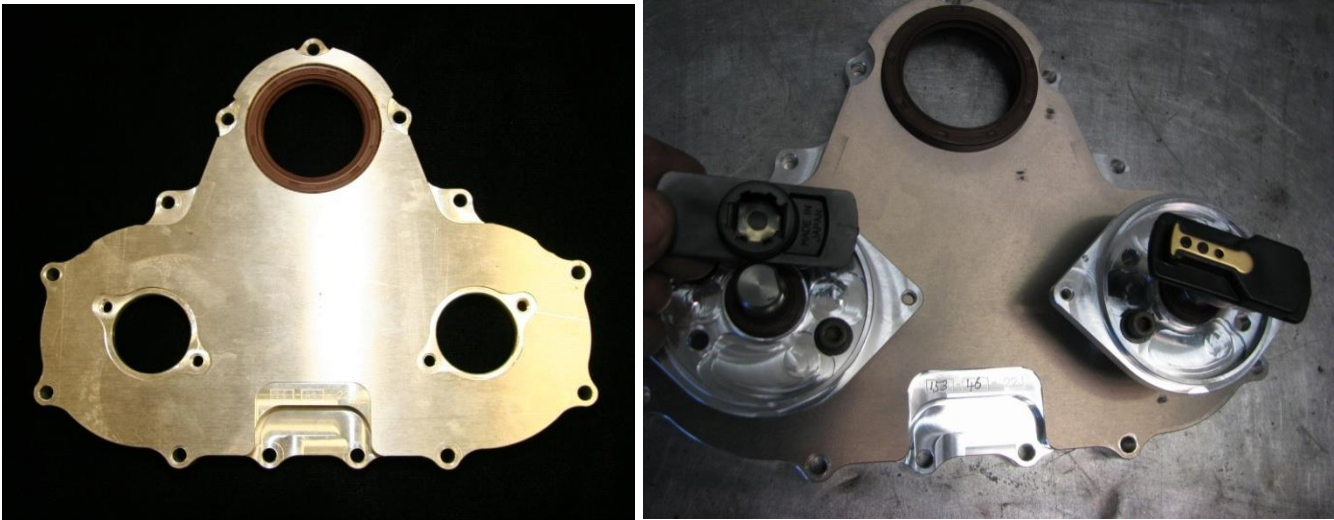

Figure 154 – Installation of Seals & Assembly
- Fresh seals must be fitted to the case and to the distributor mounts as shown in Figure 154. Note that later engines use a larger crankshaft timing gear and a thinner oil seal to suit. Oil seal size must be matched to fit the gear used.